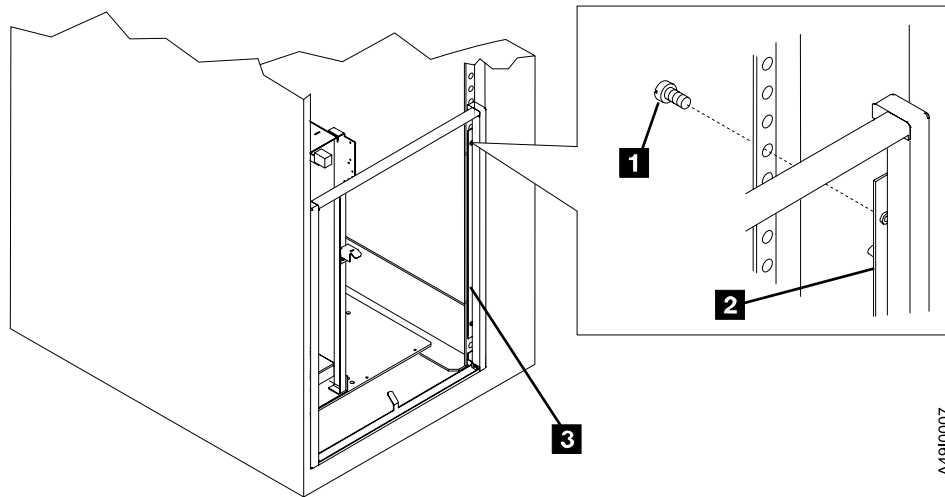

Figure 9. Filler Strip and Bezel Strip Installation
- ___ Step 8. Position bezel and filler strip assembly 3 on rack and fasten in place with 2 screws 1 (typical 4 places) on each side. Screws are inserted from inside the rack through rack upright into pan nuts in bezel strips 2. See Figure 9.